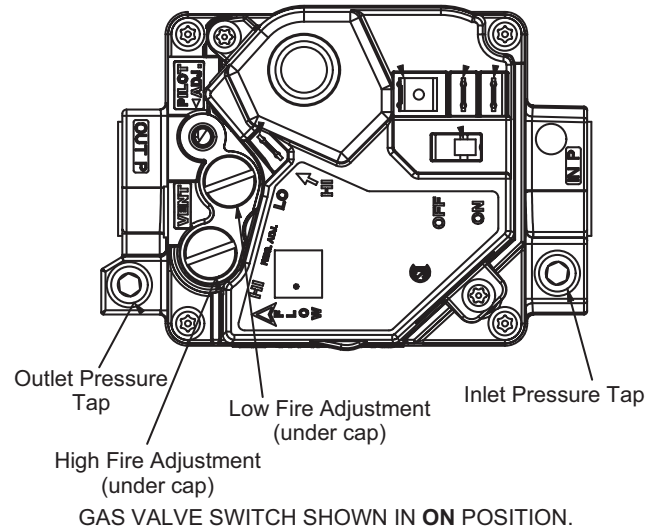
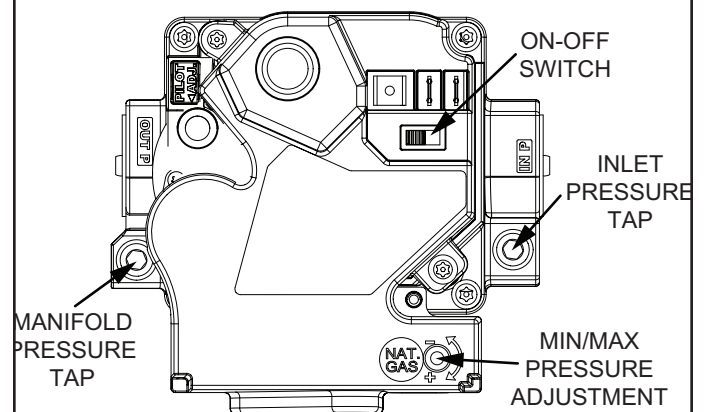

FIGURE 31
FIGURE 32
- 5 - Turn gas valve switch to **OFF**. See FIGURE 31 and FIGURE 32.
- 6 - Wait five (5) minutes to clear out any gas. If you then smell gas, **STOP!** Immediately call your gas supplier from a neighbor's phone. Follow the gas supplier's instructions. If you do not smell gas, go to the next step.
- 7 - Turn gas valve switch to **ON**. See FIGURE 31 and FIGURE 32.
After line pressure has been checked and adjusted, check manifold pressure. Move test gauge to the outlet pressure tap located on unit gas valve GV1 and or GV3. See FIGURE 31 for location of pressure tap on the gas valve.
The manifold pressure is factory set and should not require adjustment. If manifold pressure is incorrect and no other source of improper manifold pressure can be found, the valve must be replaced. See FIGURE 31 for location of gas valve (manifold pressure) adjustment screw.